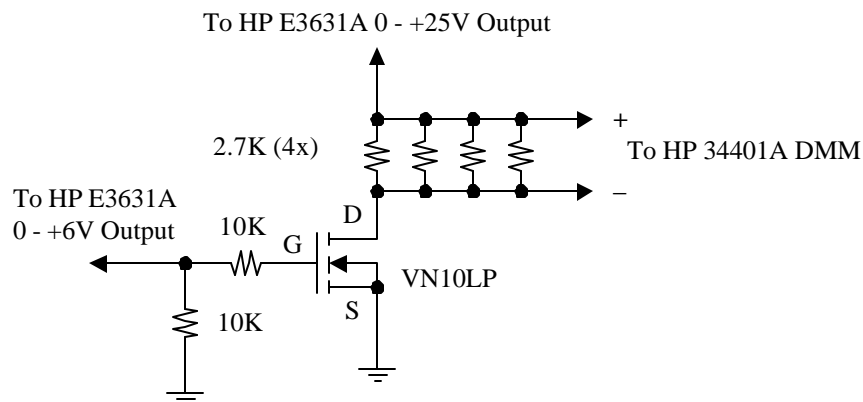

Figure 1. Test circuit for n -channel MOSFET I_D vs. V_{DS} characteristics. The source and substrate of the VN10LP are internally connected.
- 1). Connect the test circuit of Fig. 1. The VN10LP devices are prone to damage from electrostatic discharge (ESD); they should be left in the conductive foam until they are to be inserted in the circuit. Insertion of the VN10LP is to be the *last* step in construction of the test circuit.